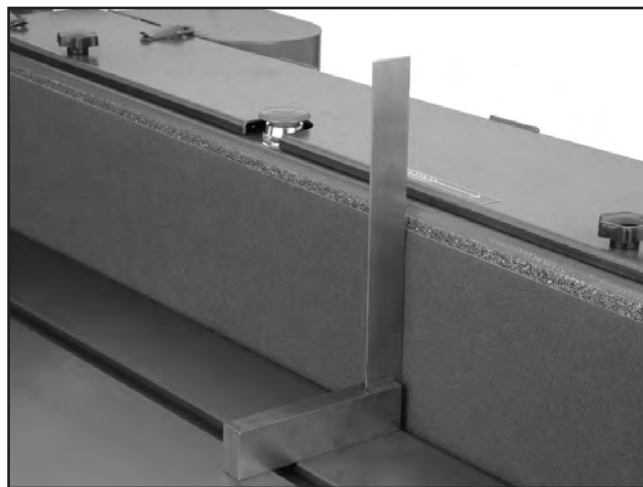

Figure 34. Aligning table to platen.
3. Adjust platen until it is flush with the machinist's square, as shown in **Figure 34**.